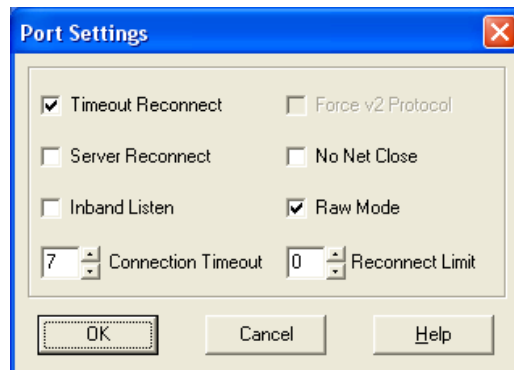

Figure 6.9 – Port Settings Dialog Box
- g. Click the **Port Settings** button. The Port Settings dialog box appears (Figure 6.9).
The Port Settings shown in Figure 6.9 affect COM Port Redirector as follows: